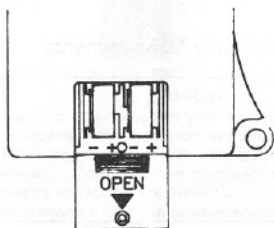

Fig. 5
- (1) The batteries are installed inside the case.
- (2) Remove the screw on the back of the battery cover for battery replacement (Fig. 5).